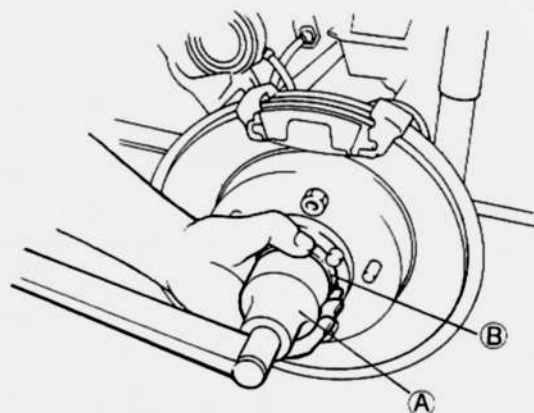

Fig. 17-5-23 Special Tool A (Front Wheel Bearing Nut Socket Wrench 09941-58010)
- 1) With wheel hub turned by hand, tighten wheel bearing nut by a torque of 80 N·m (8.0 kg-m, 57.5 lb-ft) using special tools A and B. Next, loosen the nut until the above torque is reduced to 0 N·m (0 kg-m). Then, retighten the nut by the torque within a range of 10 to 15 N·m (1.0 to 1.5 kg-m 7.5 to 10.5 lb-ft) until 4 screw holes opened on the nut correspond with the 4 screw holes opened on the lock washer assembled next to the nut respectively. (See Figs. 17-5-23 and 17-5-24.)
- 2) Tighten lock washer securely with 4 pieces of the screws ③ to lock wheel bearing nut.